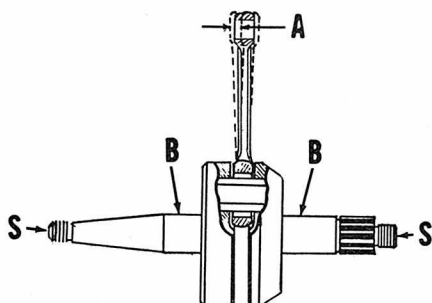

Fig. S10-9—Support crankshaft in lathe centers at (S) and measure runout at (B).
Maximum crankshaft eccentricity at bearing surface (B—Fig. S10-9) should be 0.002 inch or less with the crankshaft supported at (S). Renew connecting rod, crankpin, thrust washers and/or lower end rod bearing if shake at small end of rod (A) exceeds 0.12 inch.